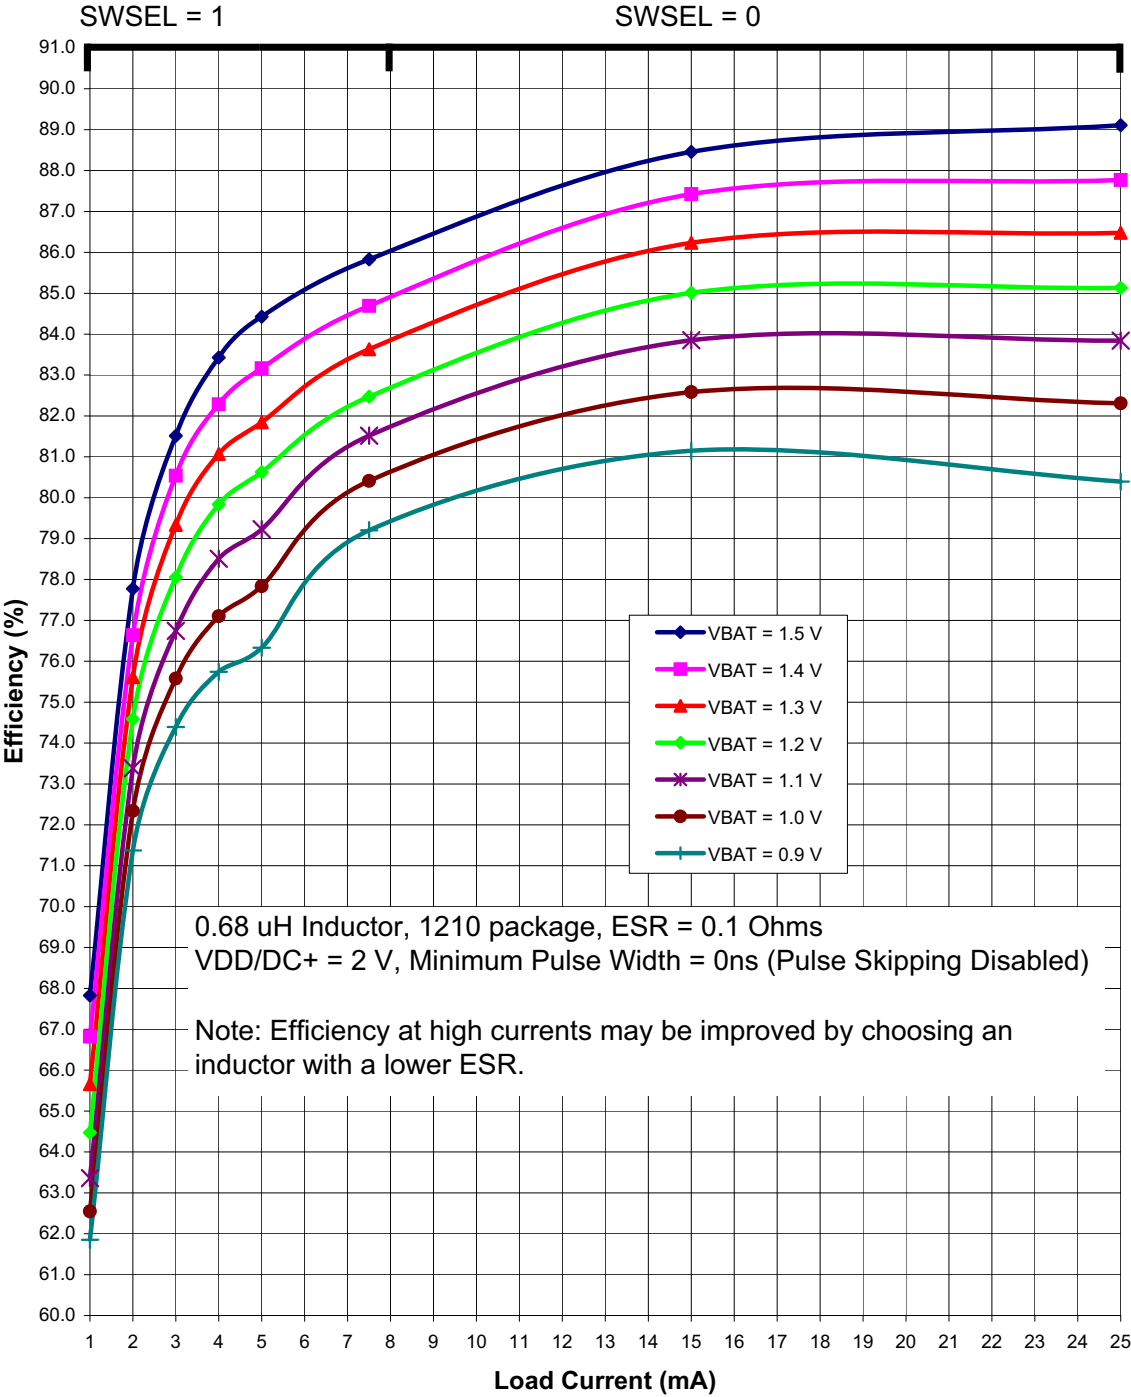
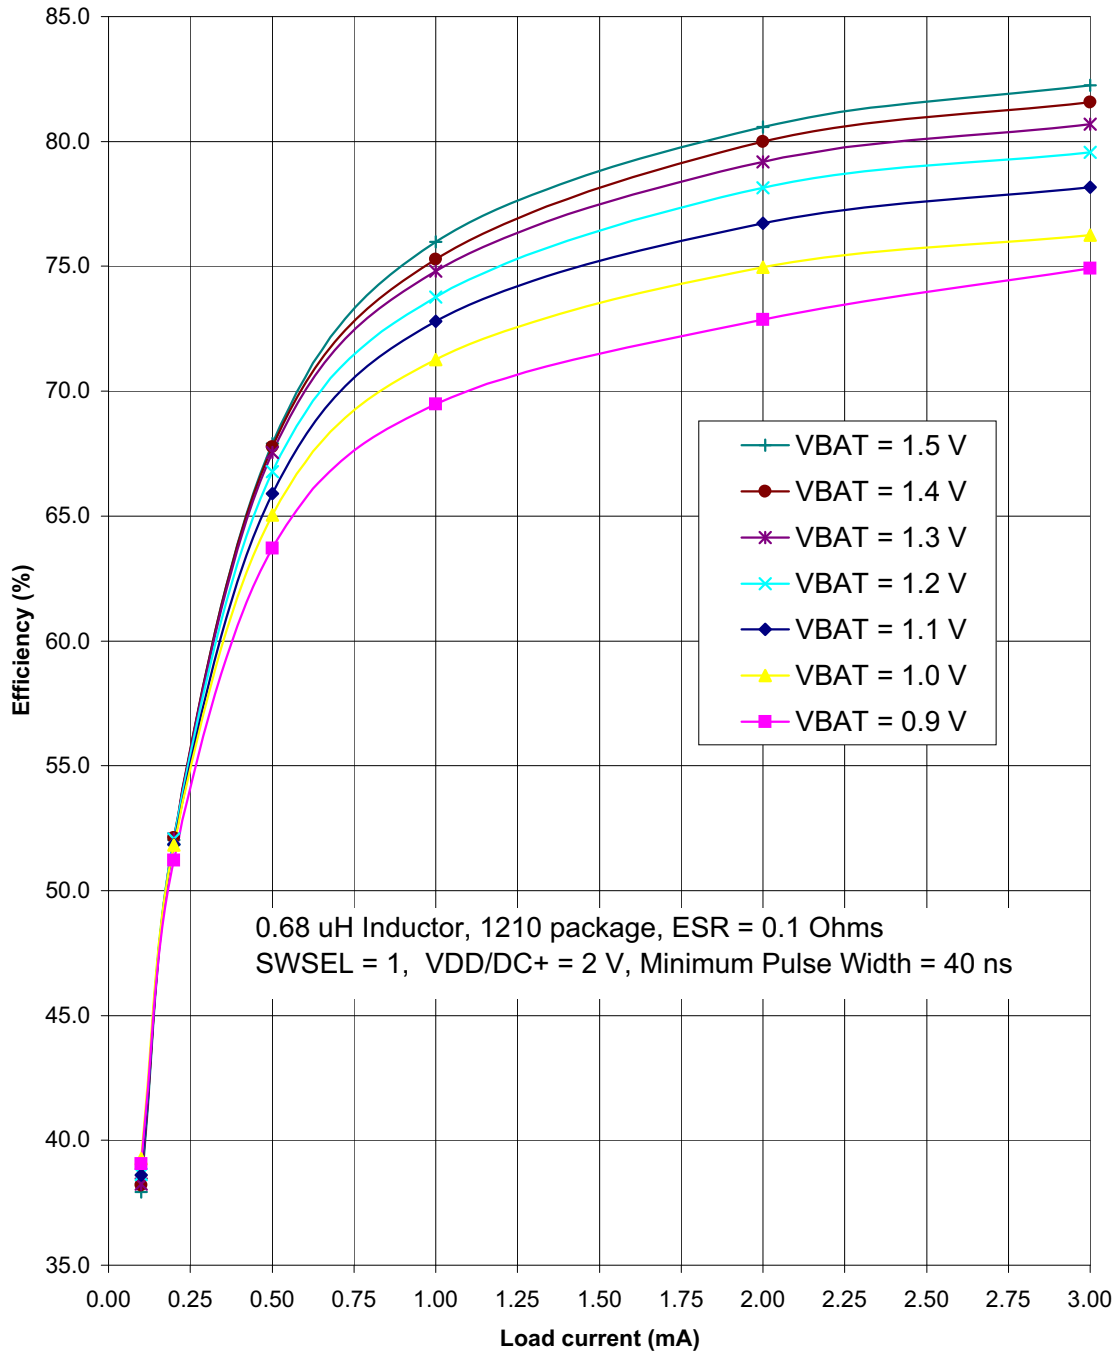

Figure 4.3. Typical DC-DC Converter Efficiency (High Current, VDD/DC+ = 2 V
Figure 4.5. Typical DC-DC Converter Efficiency (Low Current, VDD/DC+ = 2 V)
<p>Notes:</p> <ol style="list-style-type: none"> Based on device characterization data; Not production tested. SYSCLK must be at least 32 kHz to enable debugging. Digital Supply Current depends upon the particular code being executed. The values in this table are obtained with the CPU executing an "sjmp \$" loop, which is the compiled form of a while(1) loop in C. One iteration requires 3 CPU clock cycles, and the flash memory is read on each cycle. The supply current will vary slightly based on the physical location of the sjmp instruction and the number of flash address lines that toggle as a result. In the worst case, current can increase by up to 30% if the sjmp loop straddles a 128-byte flash address boundary (e.g., 0x007F to 0x0080). Real-world code with larger loops and longer linear sequences will have few transitions across the 128-byte address boundaries. Includes oscillator and regulator supply current. IDD can be estimated for frequencies ≤ 10 MHz by simply multiplying the frequency of interest by the frequency sensitivity number for that range, then adding an offset of 90 μA. When using these numbers to estimate I_{DD} for >10 MHz, the estimate should be the current at 25 MHz minus the difference in current indicated by the frequency sensitivity number. For example: $V_{DD} = 3.0$ V; $F = 20$ MHz, $I_{DD} = 4.1$ mA – $(25$ MHz – 20 MHz) \times 0.120 mA/MHz = 3.5 mA. The Supply Voltage is the voltage at the VDD_MCU pin, typically 1.8 to 3.6 V (default = 1.9 V). Idle IDD can be estimated by taking the current at 25 MHz minus the difference in current indicated by the frequency sensitivity number. For example: $V_{DD} = 3.0$ V; $F = 5$ MHz, Idle $I_{DD} = 2.5$ mA – $(25$ MHz – 5 MHz) \times 0.095 mA/MHz = 0.6 mA. The supply current specifications in Table 4.2 are for two cell mode. The VBAT current in one-cell mode can be estimated using the following equation: $\text{VBAT Current (one-cell mode)} = \frac{\text{Supply Voltage} \times \text{Supply Current (two-cell mode)}}{\text{DC-DC Converter Efficiency} \times \text{VBAT Voltage}}$ <p>The VBAT Voltage is the voltage at the VBAT pin, typically 0.9 to 1.8 V. The Supply Current (two-cell mode) is the data sheet specification for supply current. The Supply Voltage is the voltage at the VDD/DC+ pin, typically 1.8 to 3.3 V (default = 1.9 V). The DC-DC Converter Efficiency can be estimated using Figure 4.3–Figure 4.5.</p> The radio peripheral is placed in Shutdown mode.